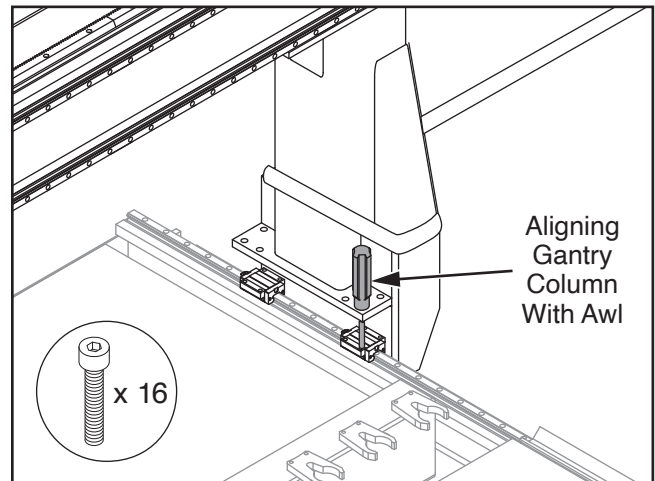

Figure 34. Aligning gantry column with awl.
10. Lower gantry until it is *almost* touching guideway carriages, then install (16) cap screws removed in **Step 8** (see **Figure 34**). Do not fully tighten fasteners at this time.